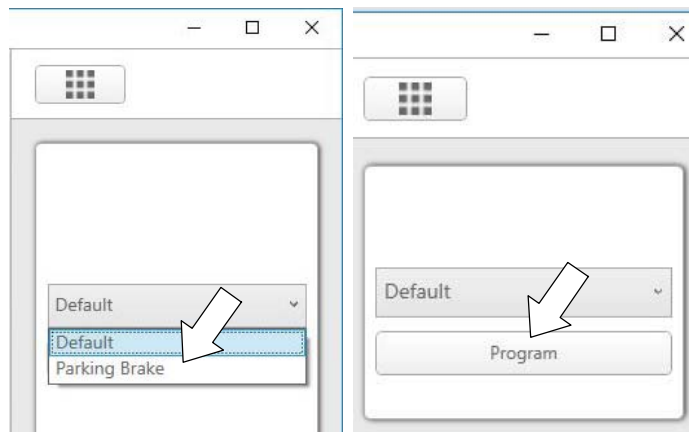

Fig. 7
8. T600/e models: If transaxle is equipped with the electronic park lock option, select "Parking Brake". If not equipped, select "Default" (Figure 7).
Then press "Program" button to program iDrive (Figure 7).